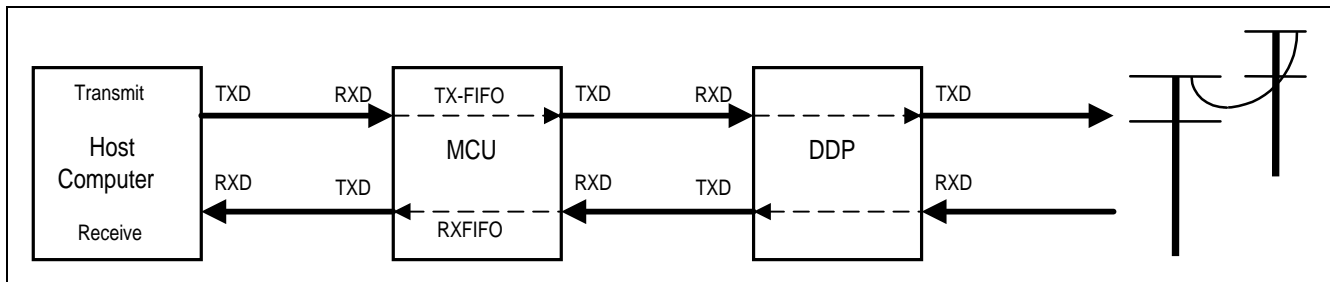

Figure 4-2. Reference Direction For Modem Data
For consistent orientation purposes, the transmit (TX) direction is from a Host computer to the PSTN (Public Switched Telephone Network) and the receive (RX) direction is from the PSTN to the Host computer (Figure 4-2). Relative to the RL56CSMV/3, TX data is received (read) from the Host and transmitted (written) to the data pump and RX data is received (read) from the data pump and transmitted (written) to the Host.